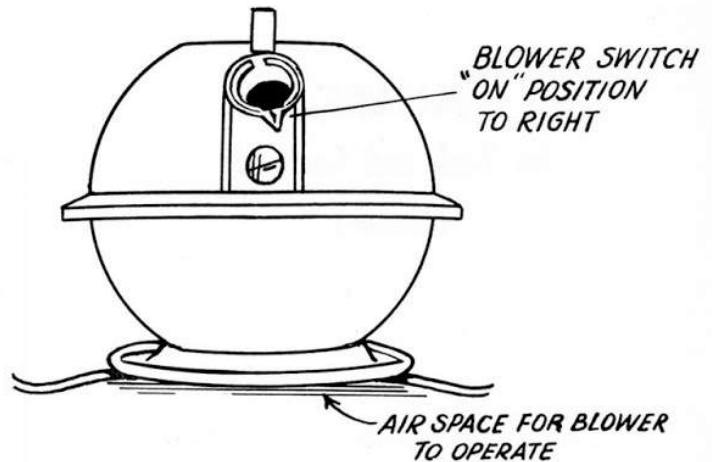

Fig. 4
- c. Connect cleaner to power supply, place cleaner over attachment cord to raise cleaner from floor. SEE FIGURE 4. Turn blower switch at connector opening to "On" position. If the motor operates from the blower switch the trouble is due to a defective hose.